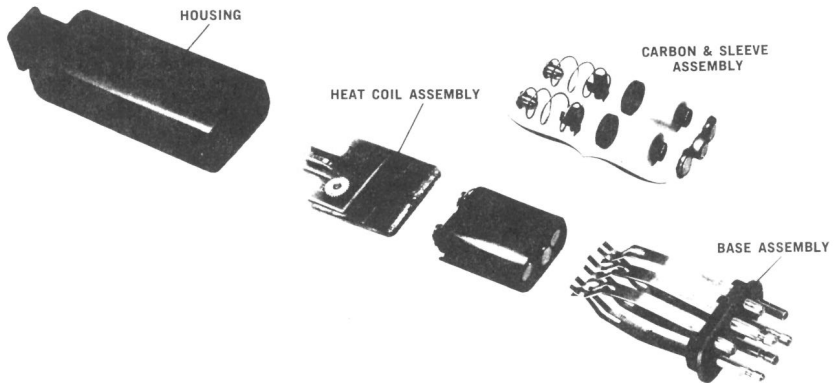

FIGURE 2. 1104 Protector Unit
- 2.06 The Reliable Electric No. 1104 Protector Unit (Figure 2) with four carbon blocks and heat coils is used on circuits requiring both voltage and sneak current protection. When the six metallic pins and one plastic polarizing pin of this protector are inserted in the connector unit (Figure 3), they provide the following contact for one cable pair: